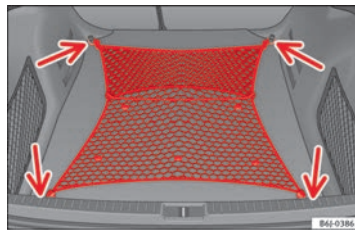

Fig. 99 Stretched luggage net.
- - Secure the luggage net to the four fastening rings ⇒ Fig. 99 (arrows).